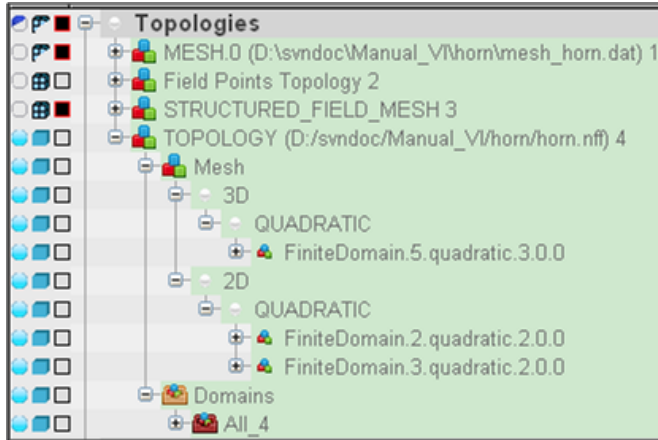

Figure 6.48: Import the horn.nff database and turn off the visibility of all other topologies
- Turn off the visibility of all the topologies except the lastly imported "horn.nff" (Figure 6.48)